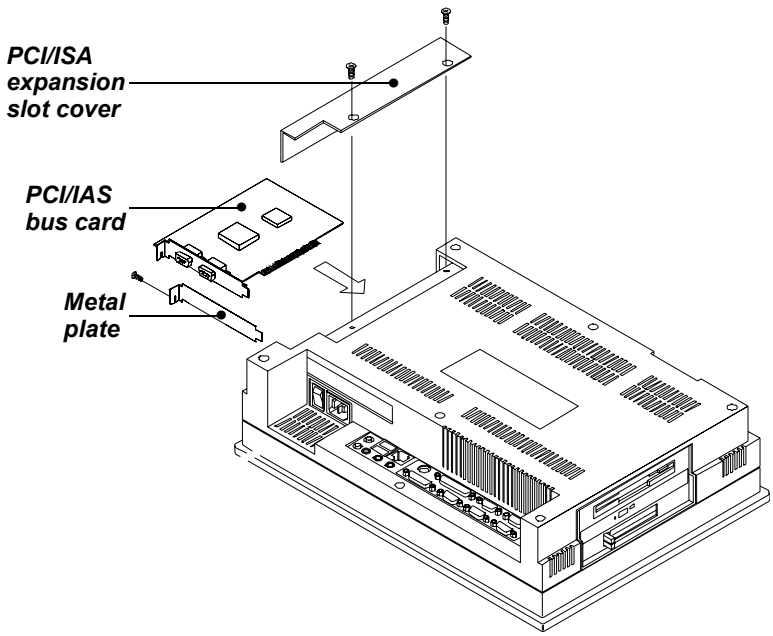

Figure 3.5: PCI/ISA bus expansion
4. Insert the PCI or ISA bus card into the PCI/ISA slot of the riser card. (See Fig. 3-5 overleaf.)
2. Connect the external joystick or game device to the system. (See Fig. 3-5.)